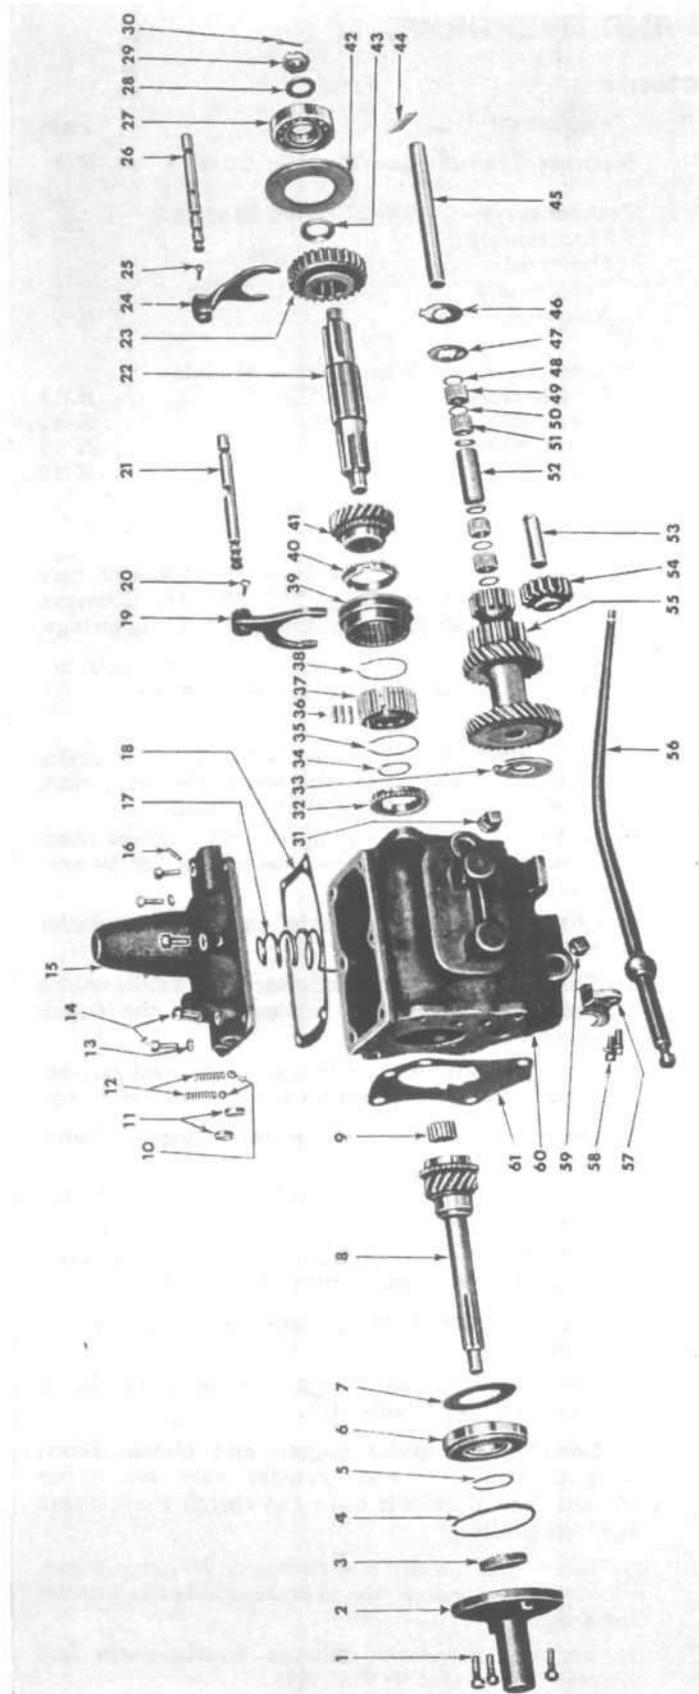

FIG. 188—TRANSMISSION—4-WHEEL DRIVE MODELS
e. Install transmission mainshaft retaining plate, tool W-194, as shown in Fig. 188 to prevent the mainshaft from pulling out of the transmission case. Should this tool be unavailable, loop a piece of wire around the mainshaft directly back of the mainshaft second-speed gear. Install the transmission shift housing right and left front attaching screws part way into the transmission case. Twist the wire and attach each end to one of the screws. Draw the wire tightly. With the mainshaft securely in place, support the transfer case and, with a rawhide mallet or brass drift and hammer, tap lightly on the end of the mainshaft to loosen the gear and separate the two units.
Note: Numbers in parentheses refer to items shown in Fig. 188.